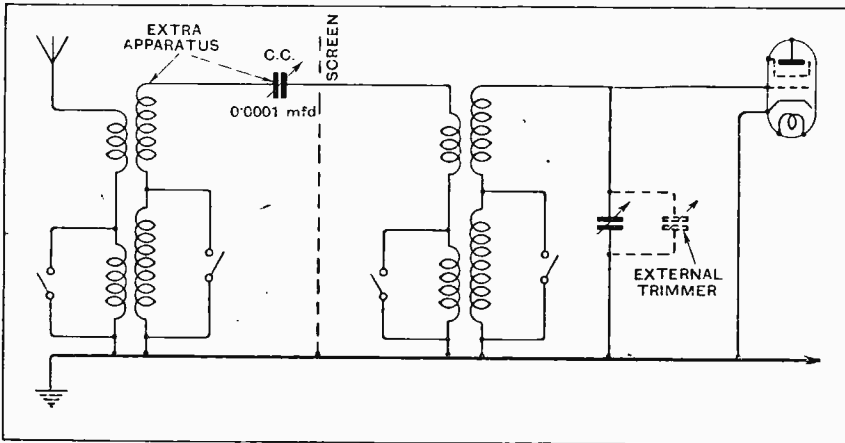

Fig. 2.—Extra tuned aerial circuit added to an existing receiver.
On the whole, we doubt if you could better the arrangement suggested in Fig. 2. In order to compensate for disturbance of tuning due to variations of coupling capacity, etc., it is suggested that an external trimming condenser should be joined across the input tuning condenser of the receiver itself.
adopted for the instrument now described is shown in Fig. 2. The details of the various components and the reasons for their use are as follows:—(V) The valve. This must be such as to give square-law rectification over the range of anode current change indicated by the galvanometer. Modern 2-volt power valves will satisfy this requirement for anode current changes of two to three hundred microamperes, corresponding to alternating voltages of 1.0 to 1.5 volts. The valve used in the present instance is a PM252: (VA) Anode battery. Any good-quality dry battery of about 15 volts can be used. As the current is very small, less than half a milliampere, a grid bias type of battery will have ample capacity: (VB) 2-volt filament accumulator: (VC) Grid bias battery. Actually about -3 volts is required, and a standard flash-lamp type of grid bias battery can therefore be used: (C1) Anode circuit by-pass condenser. A 0.1-mfd. condenser with mica dielectric is recommended, since it is important that the insulation resistance be very high: (C2) Grid circuit by-pass condenser. The insulation resistance is less important in this case, and a paper dielectric condenser of 1 or 2 mfd. can be used, preferably of the so-called non-inductive type, though this is not essential: (R1) Balancing circuit resistance. With the valve
Fig. 2.—Complete circuit diagram of square-law valve voltmeter. V, PM252 valve; VA, 15-volt H.T. battery; VB, 2-volt accumulator; VC, 3-volt grid bias battery; C1, 2 mfd.; C2, 0.1 mfd.; R1, 20,000 ohms; R2, 10 ohms; R3, 100 ohms; G, galvanometer; 0 - 120 microamps.